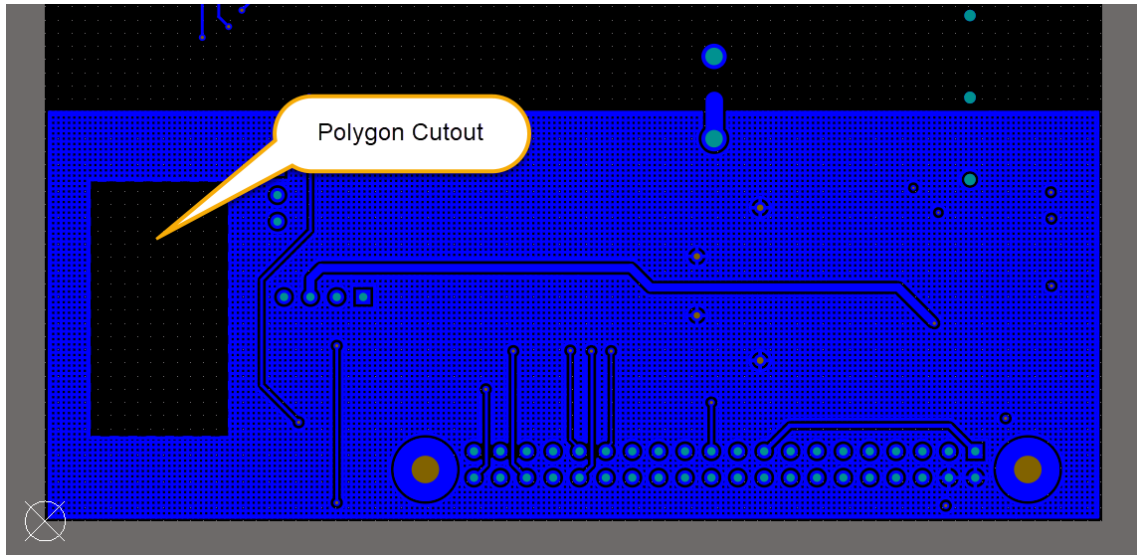

Figure 8. Polygon Pour Cutout
- a) Using Figure 8 as a reference, draw a rectangular **Polygon Pour Cutout** on the left side of the polygon that we just created.